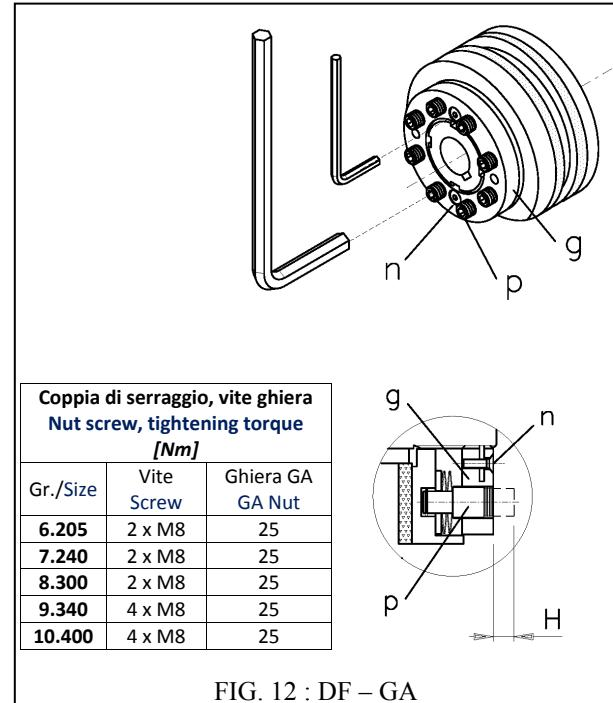

FIG. 12 : DF – GA
### **GHIERA CON BLOCCAGGIO ASSIALE "GA" (Gr.6.205-10.400 ; FIG.12 pos.g)**
- Svitare tutti i perni (Fig.12 pos.p) fino ad impaccare le molle fra seeger e ghiera assiale GA (Fig.12 pos.g).
- Svitare le 2 piccole viti di bloccaggio (Fig.12 pos.n) posizionate a 180° fra loro sulla ghiera GA. A questo punto avvitare la ghiera stessa fino a battuta, senza forzare, e bloccarla assialmente con le precedenti due piccole viti.
### **AXIAL LOCKING NUT "GA" (size 6.205-10.400 ; FIG. 12 pos.g)**
- Unscrew all adjustment-screws (Fig.12 pos.p) that are located in the big GA nut (Fig.12 pos.p) only so far, until they aren't in contact with the GA nut any more. Don't unscrew completely – Do not remove!
- Loosen the 2 small blocking-screws (Fig.12 pos.n) that are also located at 180° from each other on the big GA nut to be able to turn the GA nut. Screw in the GA nut far enough for it to make slight contact with the springs. Do *not* use a lot of force! After that - tighten the 2 small blocking-screws. Now the axial nut GA is protected against unwanted turning.
**Quota H modello DF-GA Gr. 6.205 - 10.400 (FIG.12) / H dimension model DF-GA size. 6.205 - 10.400 (FIG.12):**